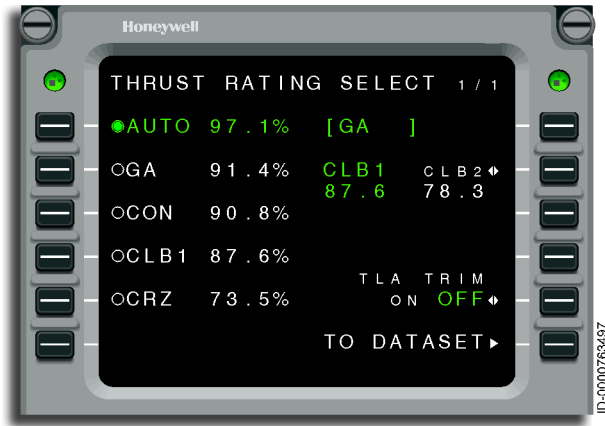

Figure 11-3
The crew selects the auto rating or one of the manual ratings using the MCDU THRUST RATING SELECT 1/1 page, shown in Figure 11-3. The selected (active) thrust rating/mode is indicated in green, and the option not selected (standby) is shown in white.
Pushing LSK 2R toggles between CLB1 and CLB2. The selected CLB rating (**CLB1** shown in Figure 11-3) is displayed in the 4L location.
When activated, the pilot-selected thrust rating (that is, **AUTO** , **GA** , **CON** , **CLB** , and **CRZ**) is displayed in green font, and the circular button next to the active rating is filled in green with a white outline. When not inhibited, all inactive thrust ratings are displayed in white font, and the circular radio button is hollow with a white outline. When the **AUTO** thrust rating mode is selected, the active rating that is automatically selected by the TRS is displayed in green font within green brackets next to the **AUTO** thrust rating selection, as shown in Figure 11-3. The selection of takeoff (TO) is possible only in the **AUTO** thrust rating mode.